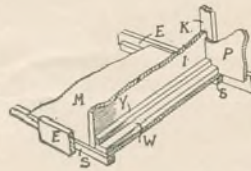
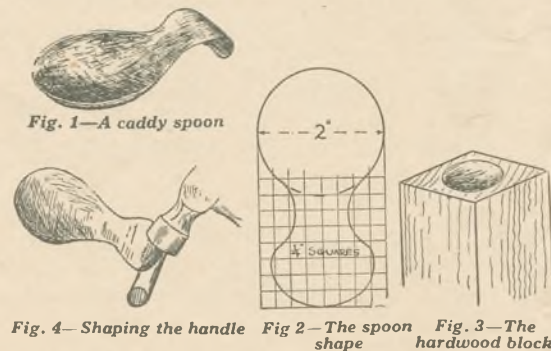

Fig. 2—Cut-away view of centre partition, floor and drawer guides
Fig. 1—A caddy spoon Fig. 2—The spoon shape Fig. 3—The hardwood block
The middle floor does not extend right through nor do the ledge pieces themselves. They only extend a portion of the way as shown at Fig. 2.
The front edge of it is covered by an upright rail (K), whilst it is supported on one side by fillet pieces of triangular section. In Fig. 2 can also be seen how the runners and guides for the drawer are made. These are the parts Y and W. The latter is glued to the floor immediately opposite the upright, and Y comes above it.
Let us start our new hobby by making the simple tea caddy spoon as shown in Fig. 1. First, from a piece of 19 gauge copper, cut out the shape with snips as in Fig. 2 and file the edges up true to shape. Now, copper and brass are very hard when bought, so the next job is to anneal or soften the metal. This can be done on the kitchen gas ring or with the blowlamp by making the metal red hot and quenching it into water to cool it. It will now be found to bend any way at will.